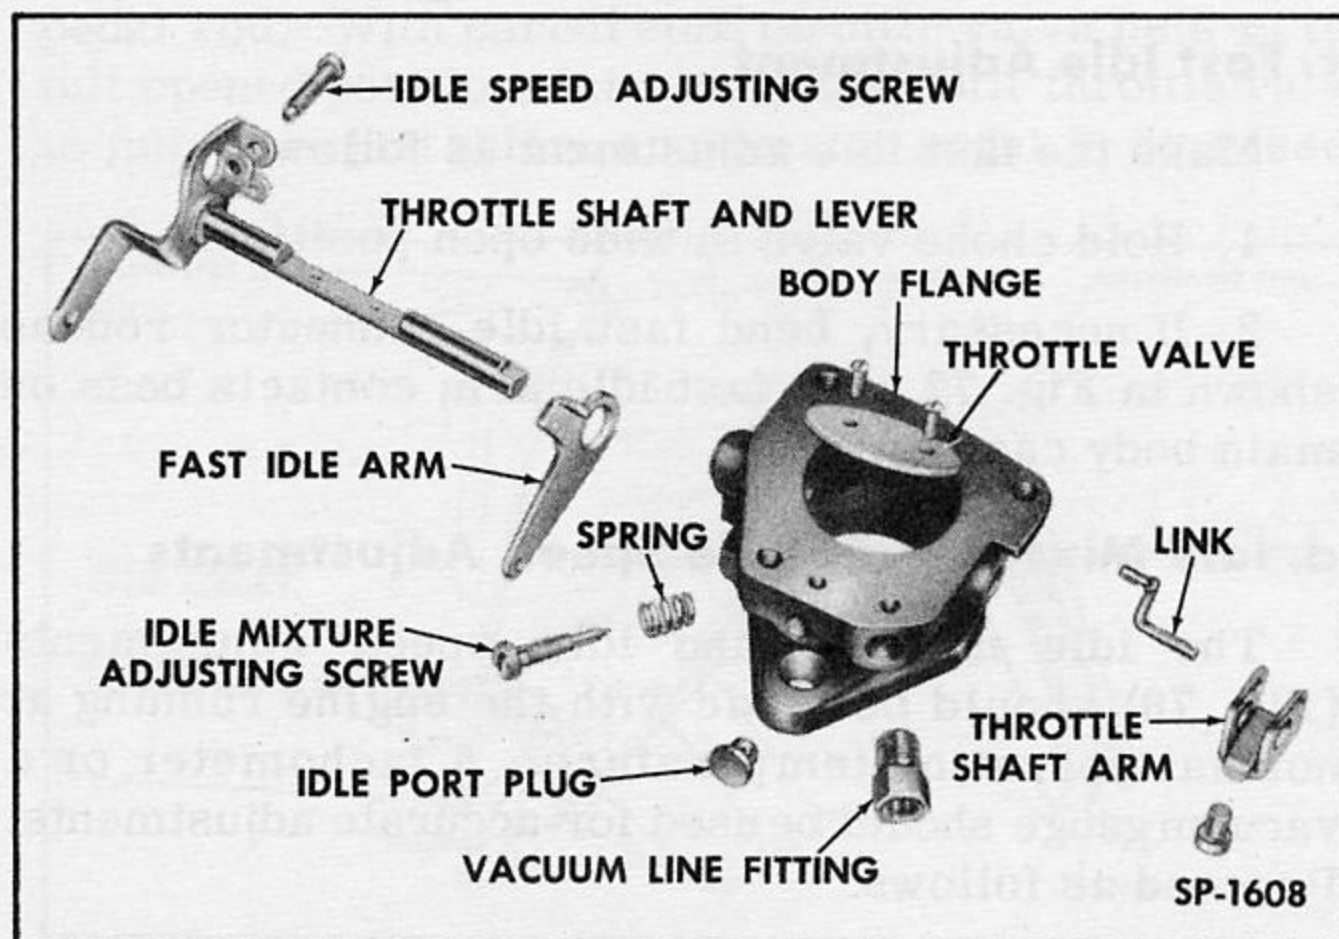

Fig. 74—Carburetor Body Flange—Exploded View
5. To disassemble body flange (Fig. 74), remove two screws and throttle valve from shaft and remove